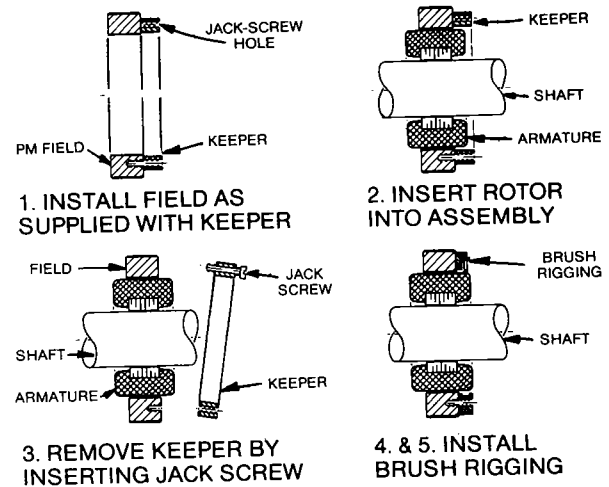

Figure 1-13
- 3) Remove the keeper ring using the jack screw as shown in Figure 1-13.